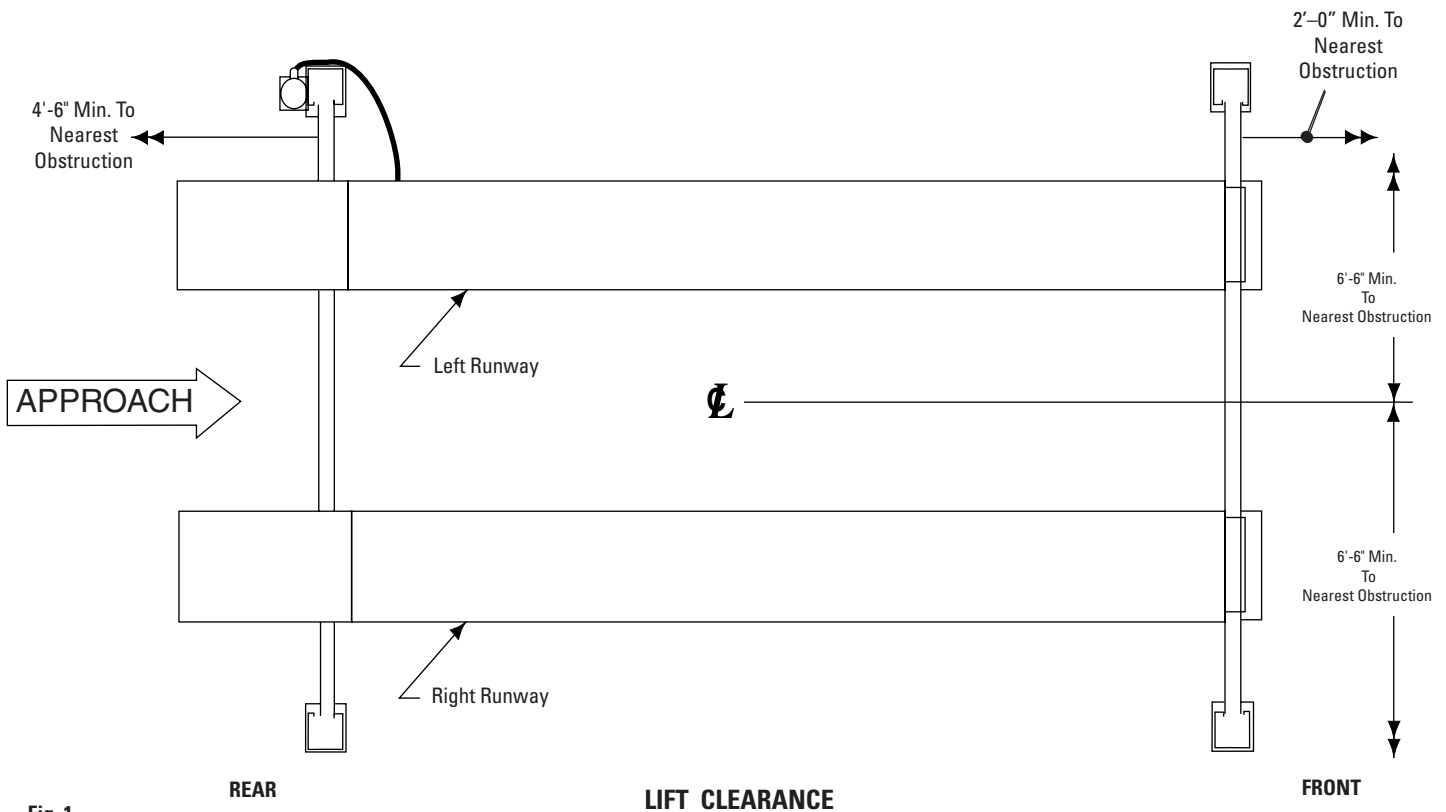

Fig. 1
**1. Lift Location:** Use architects plan when available to locate lift. Fig. 1 shows dimensions of a typical bay layout. For power unit at right front, rotate lift 180°, leaving ramp/chocks and wheel stops in original position. Lift floor area should be level.
C. Position front and rear yokes at respective ends of runway, Fig. 1. The opening in the side of the yokes should be lined up with the cable sheaves in the runway ends. Feed cable ends through yoke openings, Fig. 4 and 9. Do not assemble sheaves in yoke ends at this time.
- A. Keep columns square to center line of lift. Check lift location in the bay, Fig. 1. Check dimensions side-to-side, front-to-rear, and diagonally. Diagonals must be equal to within 1/4", Fig. 10.